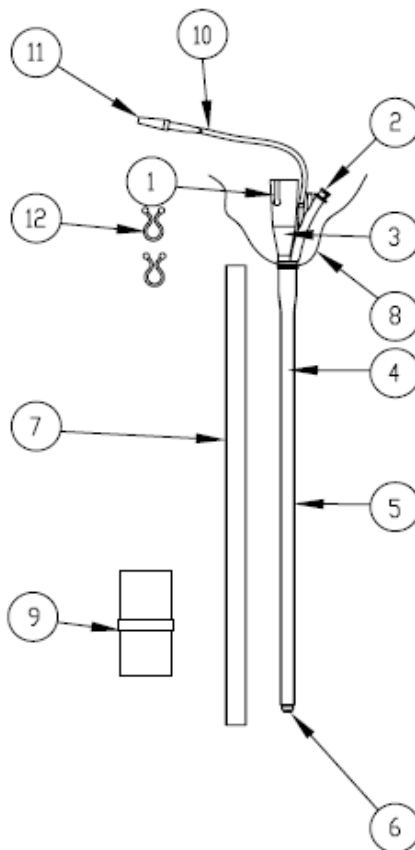

Figure 3-3: BF-2.8*, BF-2.1 and BF-1.5 Slide-On® EndoSheath® Technology
- The **BF-2.8 Slide-On® EndoSheath® Technology*** (Figure 3-3 on page 14). This Sheath contains a 2.8mm (8.4Fr) channel through which suction can be performed, and/or accessory instruments can be inserted.
- **The BF-2.1 Slide-On® EndoSheath® Technology** (Figure 3-3 on page 14). This Sheath contains a 2.1mm (6.3Fr) channel through which suction can be performed, and/or accessory instruments can be inserted.
- The **BF-1.5 Slide-On® EndoSheath® Technology** (Figure 3-3 on page 14) has a 1.5mm (4.5Fr) channel that supports suction, but cannot accommodate the insertion of accessory instruments.
04-4103	BF-2.8 Therapeutic Slide-On® EndoSheath® Technology** (2.8mm Working Channel) for the BRS-4000 Bronchoscope (Figure 3-3) **Available in select markets only
04-4101	BF-2.1 Therapeutic Slide-On® EndoSheath® Technology (2.1mm Working Channel) for the BRS-4000 Bronchoscope (Figure 3-3)
04-4102	BF-1.5 Diagnostic Slide-On® EndoSheath® Technology (1.5 Channel) (Figure 3-3)
The **BF-2.8***, **BF-2.1** and **BF-1.5 Slide-On® EndoSheath® Technology** (shown in Figure 3-3 below) is a sterile, disposable barrier for the Cogentix Medical **BRS-4000** Flexible Bronchoscope. The Sheath isolates the Bronchoscope from contact with patient fluid and material during the procedure.